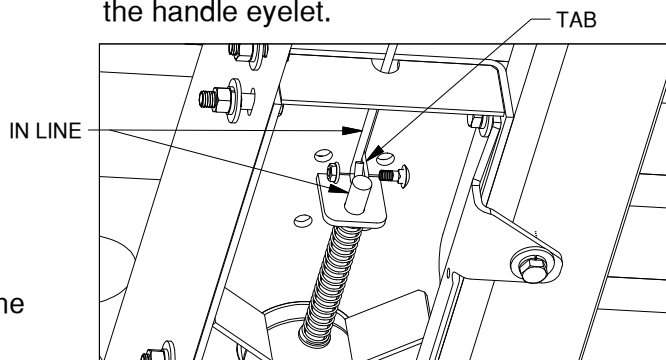

Figure F2: View under driver side of center under the latch pin.
- 2. Secure the handle.** From inside the driver side wheel well, install the latch pin release handle by inserting it between the bed and the frame. Pass the handle through the slot in the end of the center section. Align the handle eyelet with the square hole in the latch pin so the handle is in line with the latch pin. (On the cab side of the tab). Secure the handle to the pin with the 5/16" X 3/4" carriage bolt and 5/16" locking flange nut, as shown in Figure F2. Note: The included 5/16" cap screw can replace the carriage bolt if wrench access on the "cab side" of the handle is limited. Tighten the nut until it is secure. Do not over-tighten and deform the handle eyelet.